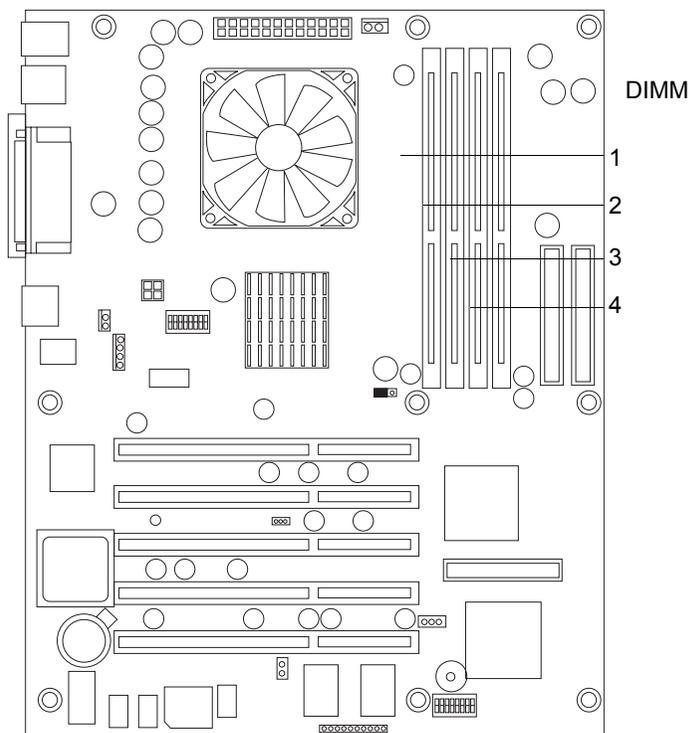

Figure 3-12. DIMM Locations on System Board
- DIMM sizes may be mixed on the system board and may be loaded in any order (1 through 4). However, HP recommends loading the DIMMS by size, starting at slot 4 with the smallest DIMM size and filling the slots in reverse order (4, 3, 2, 1). See Figure 3-12 for DIMM slot locations.
See Figure 3-12.